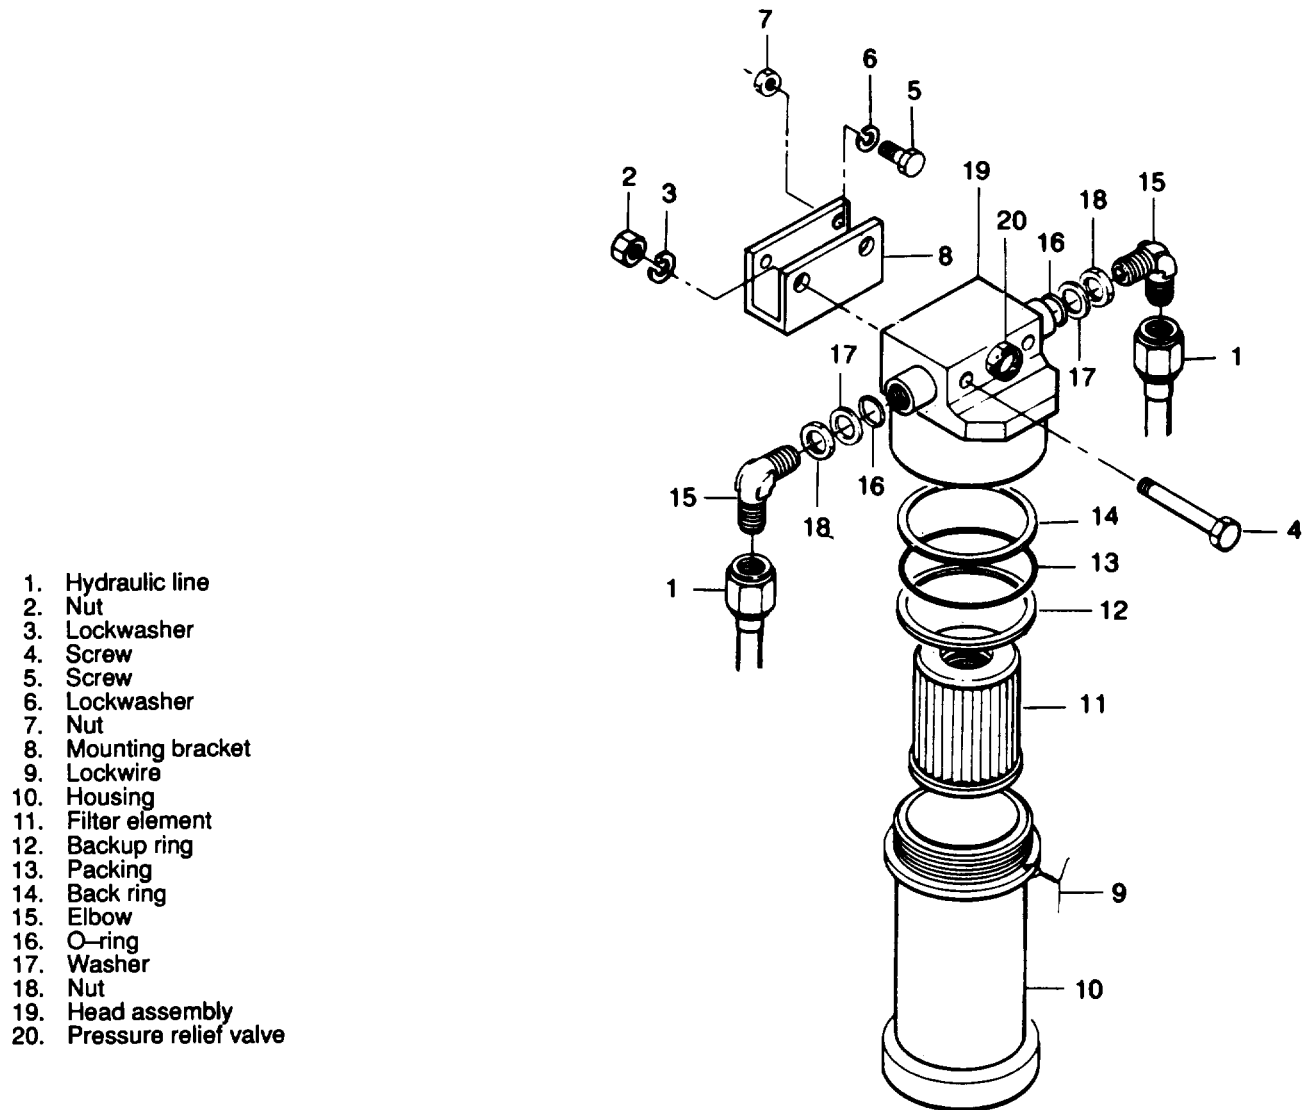

Figure 3-35. Hydraulic System Filter Assembly, Exploded View
- (1) Disconnect hydraulic lines (1, figure 3-35), and drain hydraulic fluid into a suitable container.
- (2) Remove nuts (2), lockwashers (3) and screws (4) to remove filter assembly.
- (3) Do not remove screws (5), lockwashers (6), nuts (7) and mounting bracket (8) unless inspection reveals damage.
- (1) If removed, install mounting bracket (8, figure 3-35), nuts (7), lockwashers (6) and screws (5).
- (2) Position filter assembly to install screws (4), lockwashers (3), and nuts (2).
- (3) Connect hydraulic lines (1), and fill with hydraulic fluid.